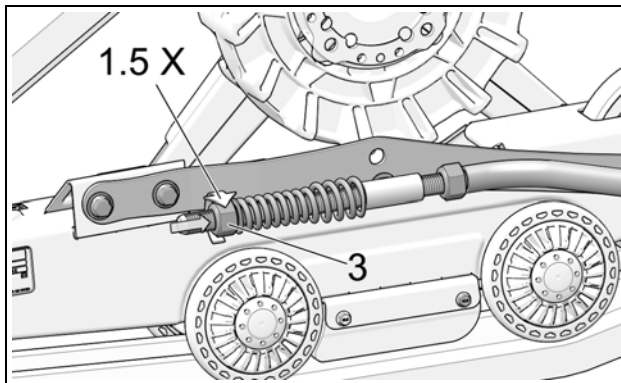

Figure 12
- Turn nut (3) until it comes in contact with the spring, then compress the spring by turning the nut 1 1/2 turns. See Figure 12.